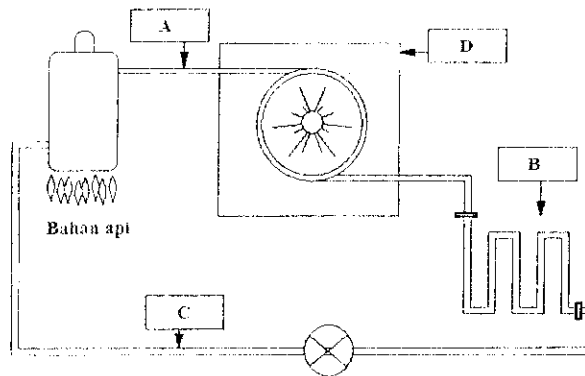

Figure 7
15. Figure 7 shows a simple system of thermal production. A, B, C and D are the flowing process to produce the energy.
Based on Figure 7, complete table 6 by writing A, B, C and D in the space provided below.